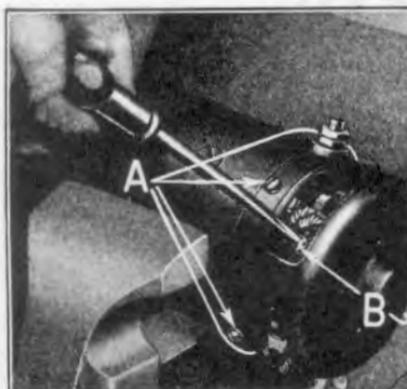

Fig. 489
- 958 Run out the four brush end bracket to yoke screws (See "A" Fig. 489) together with the two screws "B" which hold the two field leads to brush holder.
- 971 Install brush end bracket on end of yoke by running in the four screws which hold it in place, also the two screws which hold field leads to brush holders (See Fig. 489). (The starting motor field leads are not crossed when installing brush end bracket as they are on the generator, but are connected direct to the insulated brush holders.)